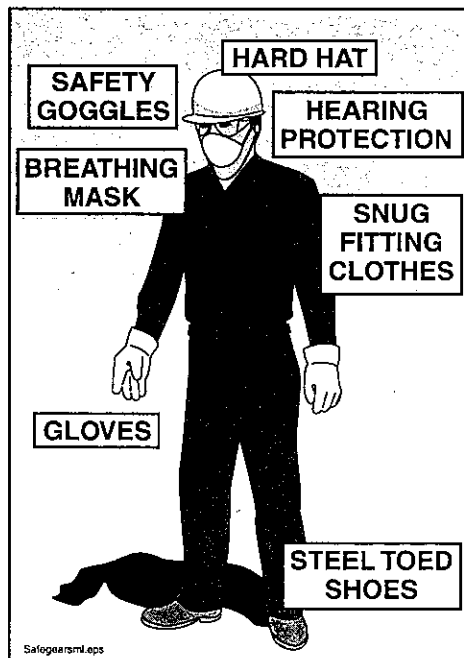

Figure 65
- 16.2 **⚠ WARNING!** You should wear the same personal safety equipment as the operator. Goggles, hard hat, ear protection, and rubber gloves are especially important when working near the hopper (Figure 65).